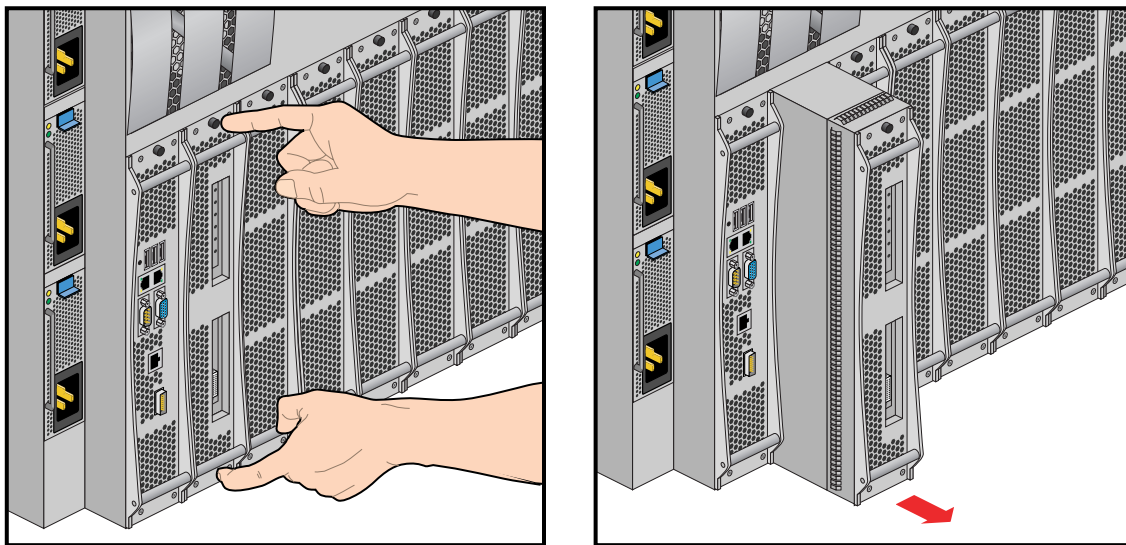

Figure 5-4 Removing a PCIe Enabled Riser Blade
3. Grasp the front pull bars and depress the black release button on the blade and pull it out of the IRU, see Figure 5-4. Place it on a flat static-safe working surface.